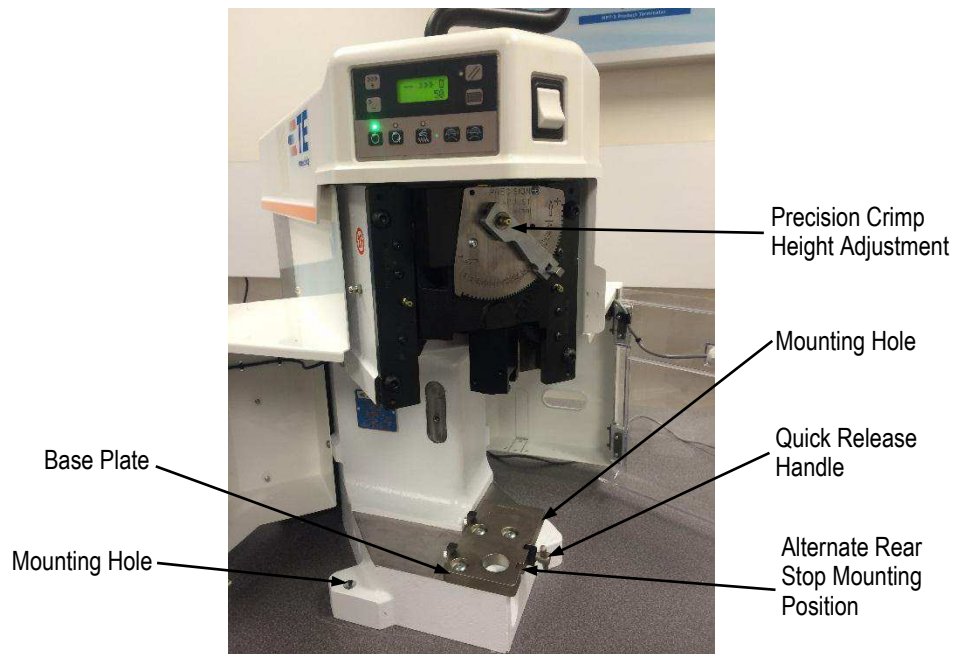

Figure 9
3. The **base plate** provides the mounting surface on which the applicator is installed. The quick-release latching feature permits fast, easy installation and removal of the applicator. See Figure 9.
4. The **crimp height adjustment group** uses an eccentric located in the ram linkage, along with detented stops in the mechanism to adjust the crimp height. Indexing the mechanism in either direction will change the crimp height in increments of approximately 0.01 mm [.0004 in.] per step. Refer to Figure 9 for the Precision Crimp Height Adjustment Mechanism.
Machines should be securely bolted to the bench using the machine mounting holes shown in Figure 9. Hardware is customer supplied. Machines should not extend beyond the front of the bench.
1. Loosen the quick-release T-handle (see Figure 9) and slide the applicator base clamp down.
When using Applicator 567200-2 (originally intended for use with AMP-O-ELECTRIC Model “K” terminating machine), loosen the quick-release T-handle, slide down the applicator base clamp, and remove the rear stop located on the left side of the base plate. Install the rear stop (PN 354561-1), supplied with the air feed kit, at the alternate mounting position on the base plate. See Figure 9.